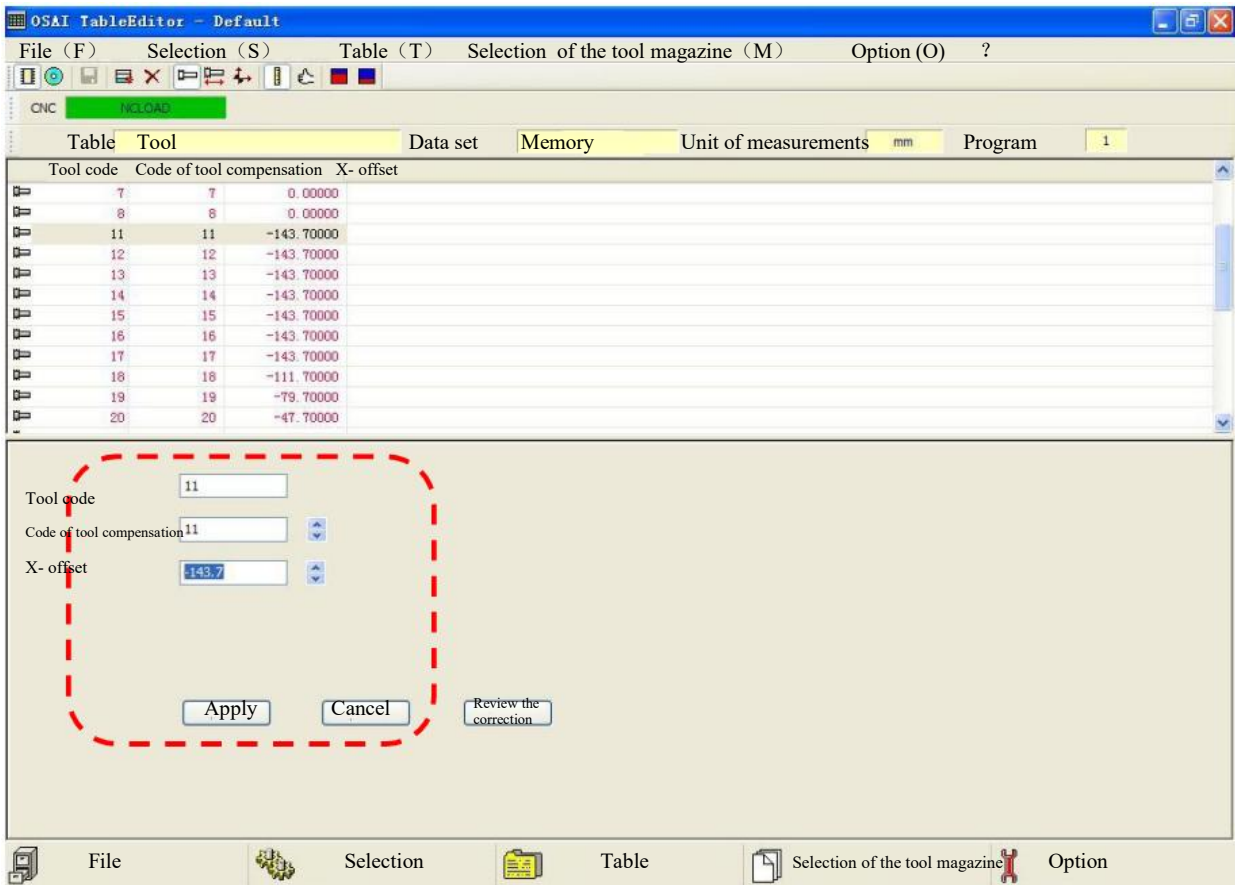

Fig.6.27
- 3) Tool11-24 are vertical drilling tools of gang drill. For them, correct the "X-offset" according to the X-direction deviation when drilling, and then save the data, as shown in Fig.6.27.